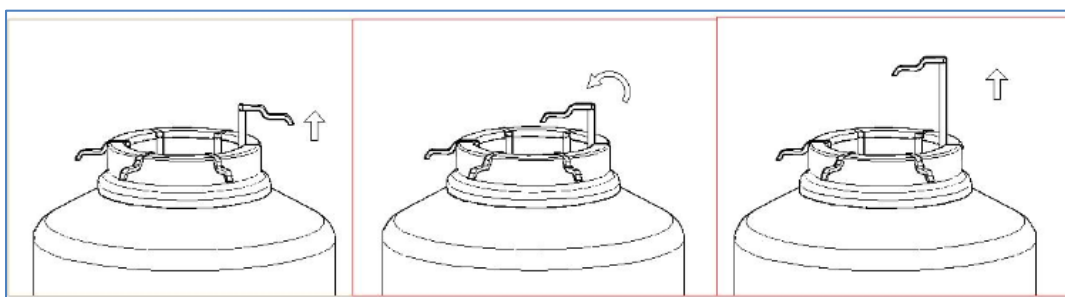

Figure 3
- Then, rotate the handle 180° and continue lifting the canister vertically to extract it from the container (see Figure 3).